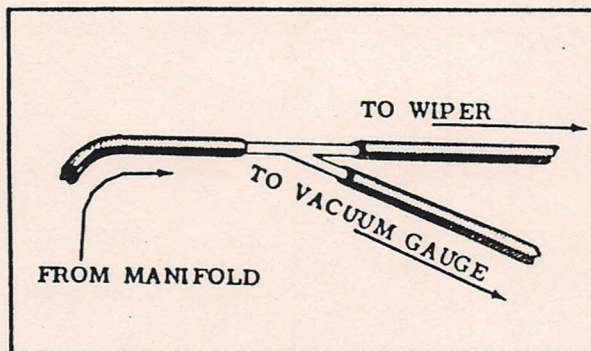

FIG. 4
- a. If the vehicle does not have a vacuum booster, insert a T or Y fitting in the wiper hose. (Figure 4)